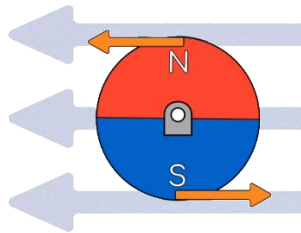
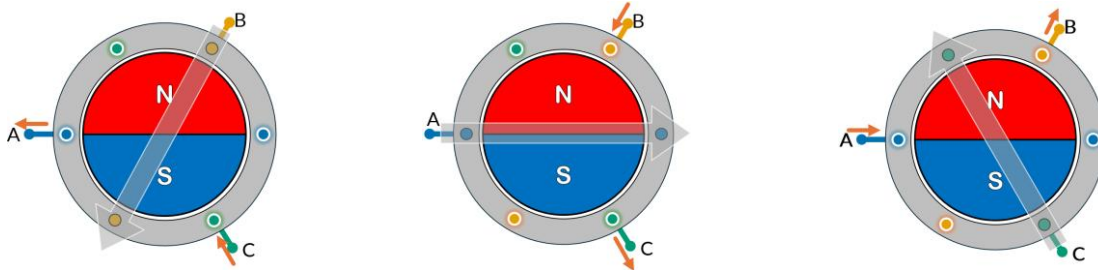

Figure 2. Magnetic Field for Maximum Torque
Figure 3. Magnetic fields generated when energizing coils
15. Determine the control sequence to rotate the motor clockwise. The table will be filled out in the next step. Note that the magnetic field should always be 90 degrees from the magnet to achieve maximum torque as shown in Figure 2. Figure 3 shows magnetic fields in different scenarios of voltage going in and out through 2 phases while the third phase without an arrow is left floating or not connected. For example, the first image shows current going in through coil/phase C (high), out through coil/phase A (low) and B left floating. The magnet position in this figure is not relevant as well as the hall sensor location. See the Concept Review on BLDCs mentioned in the Application Guide for further information.